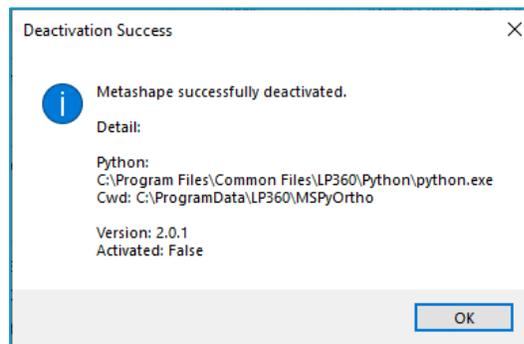

Figure 16 – Agisoft Ortho Mapping Deactivation Success
7. You should see a Deactivation Success message (Figure 16) indicating, “Metashape successfully deactivated”. Select *OK*.